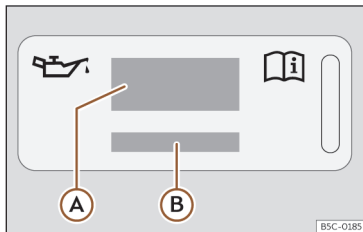
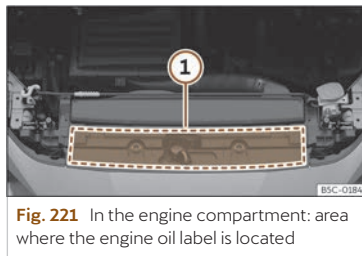

Fig. 220 In the engine compartment: engine oil label
Fig. 221 In the engine compartment: area where the engine oil label is located
Key to the >>> **Fig. 220:**
If the engine oil has to be topped up, use one of the oils shown on the label >>> **Fig. 220**. The label with the prescribed standard is located at the front of the engine compartment >>> **Fig. 221 (1)**. If you use the recommended engine oil, you can top up the oil as often as necessary.